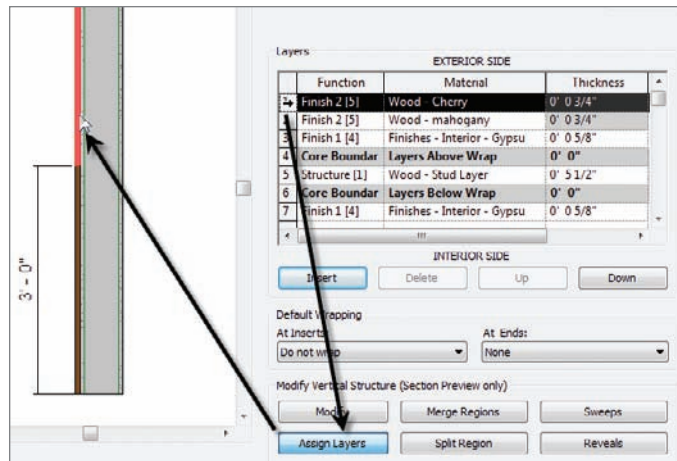

FIGURE 16.7 Assigning the cherry layer to the upper portion of the wall
1. Pick the Layer 1 row (Wood - Cherry), as shown in Figure 16.7.
2. Click the Assign Layers button, as shown in Figure 16.7.
3. Move your cursor over the upper region of the plywood layer and pick. Cherry is now assigned to the upper portion of the wall, and the thicknesses are now set to 3/4” (see Figure 16.7).